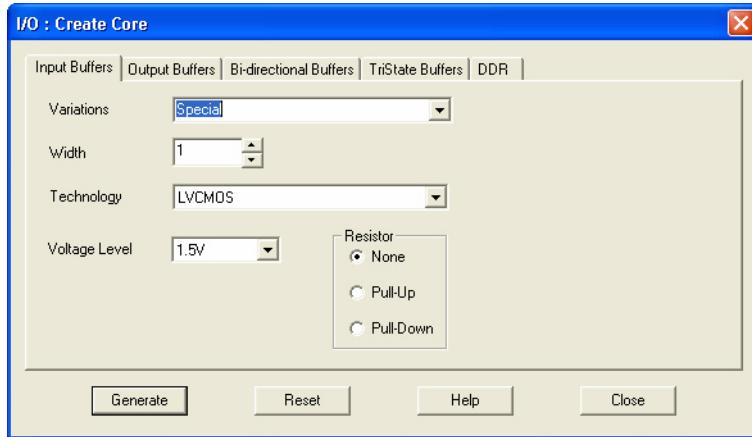

Figure 8-3 • I/O Create Core Window
3. Double-click I/O to open the Create Core window, which is shown in Figure 8-3).
As seen in Figure 8-3, there are five tabs to configure the I/O macro: Input Buffers, Output Buffers, Bidirectional Buffers, Tristate Buffers, and DDR.
The **Special** variation has Width, Technology, Voltage Level, and Resistor Pull-Up/-Down options (see Figure 8-3). All the I/O standards and supply voltages (V_{CCI}) supported for the device family are available for selection.